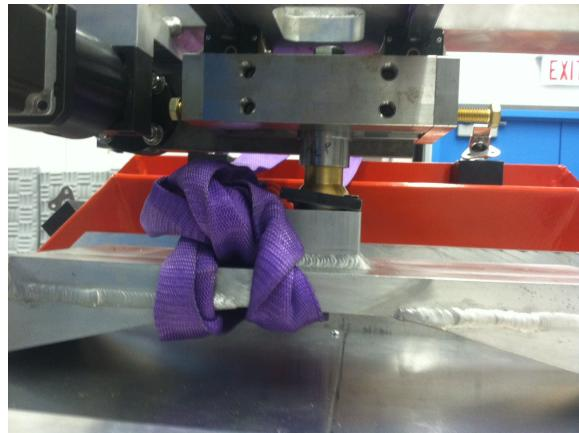

Figure 6
3. Allen wrench off the top piece holding in the pin. See Figure 6.